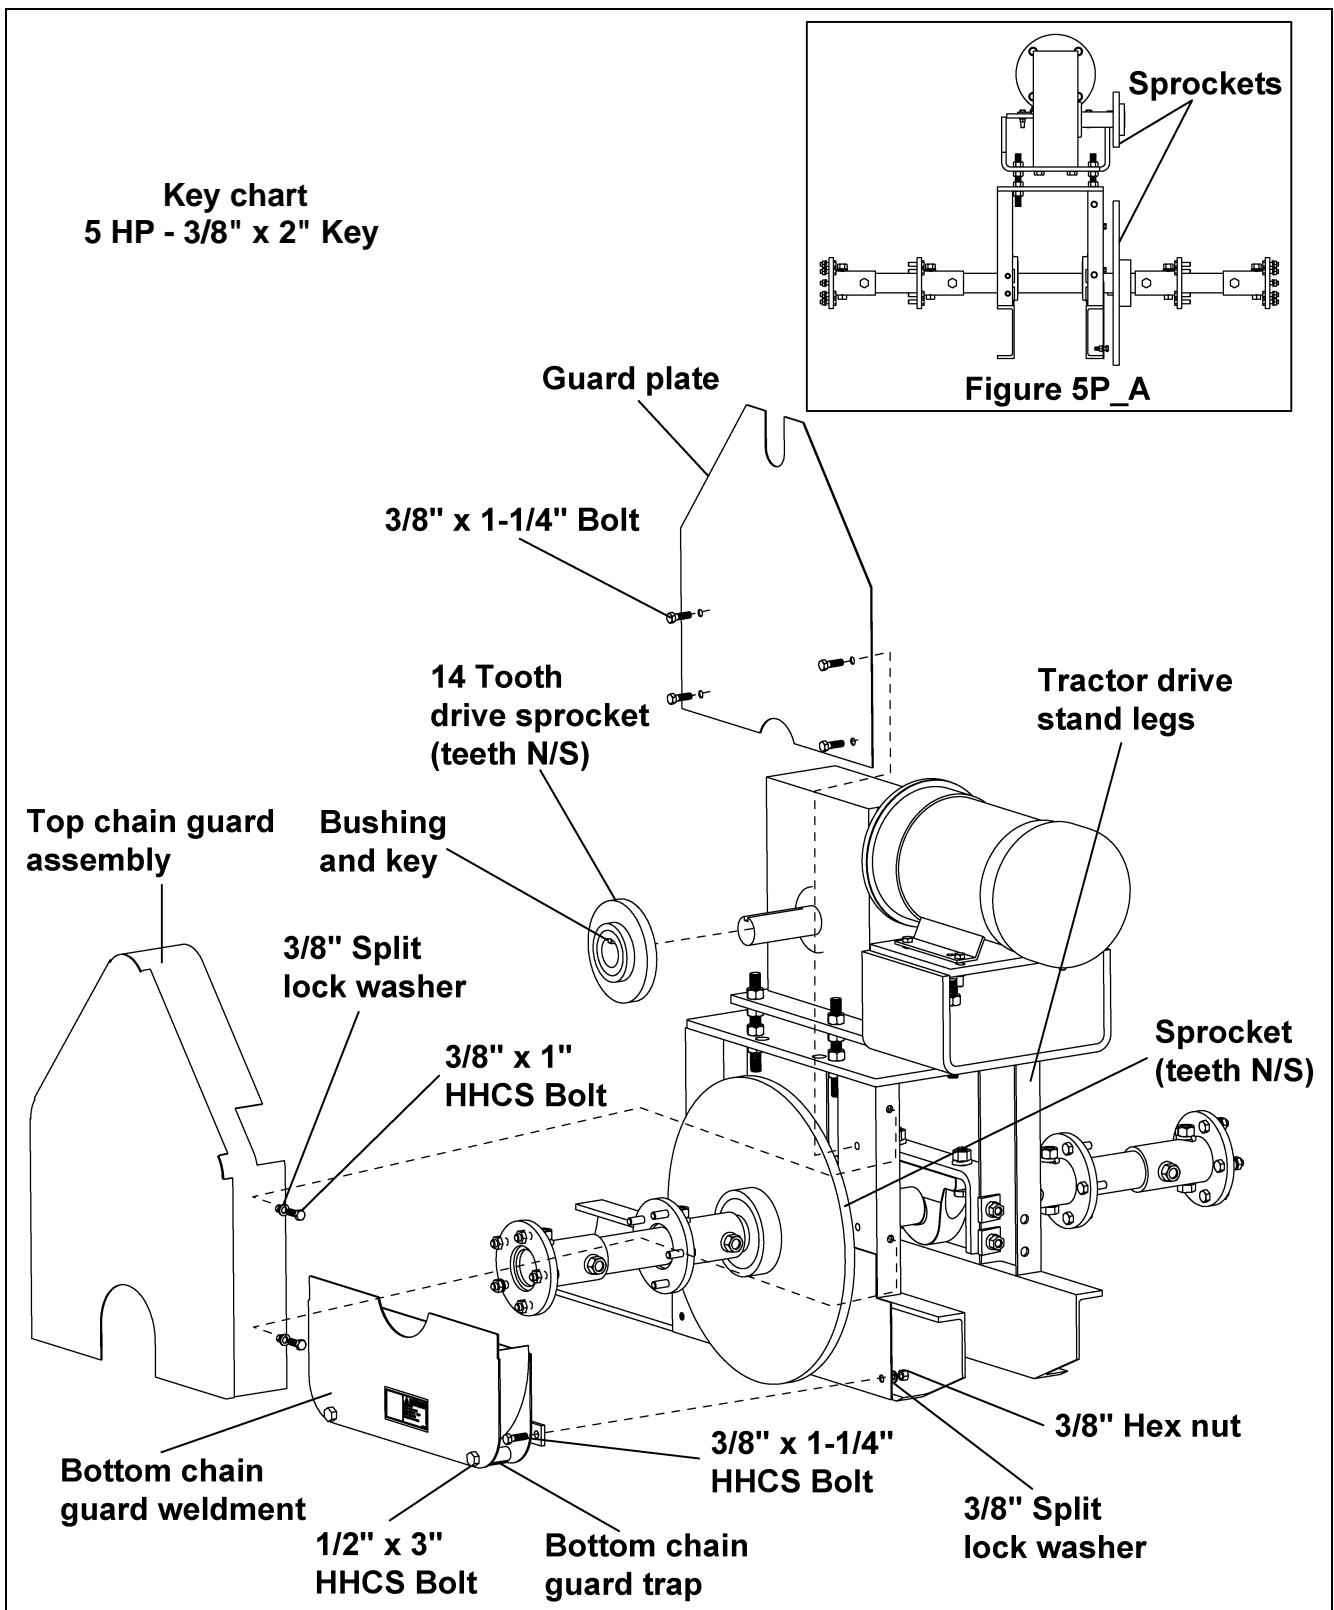

Figure 5P
- A. Attach the guard plate to the tractor drive stand legs using 3/8" bolts and nuts before attaching the drive sprocket. (See Figure 5P on Page 33.)
- B. Slide the fourteen (14) tooth (teeth N/S) drive sprocket, bushing and key (see key chart on Page 33 for the size key) onto the output shaft of the reducer, make sure both sprockets line up. (See Figure 5P and Figure 5P\\_A on Page 33.)
- C. Assemble the bottom chain guard trap to the bottom chain guard weldment using 1/2" x 3" HHCS bolts, 1/2" split lock washers and 1/2" hex nuts. (See Figure 5P on Page 33.)
- D. Attach bottom chain guard weldment to tractor drive stand using 3/8" x 1-1/4" HHCS bolts, 3/8" split lock washers and 3/8" hex nuts. (See Figure 5P on Page 33.)
- E. Attach top chain guard assembly to tractor drive stand using 3/8" x 1" bolts, 3/8" split lock washers and 3/8" hex nuts. (See Figure 5P on Page 33.)